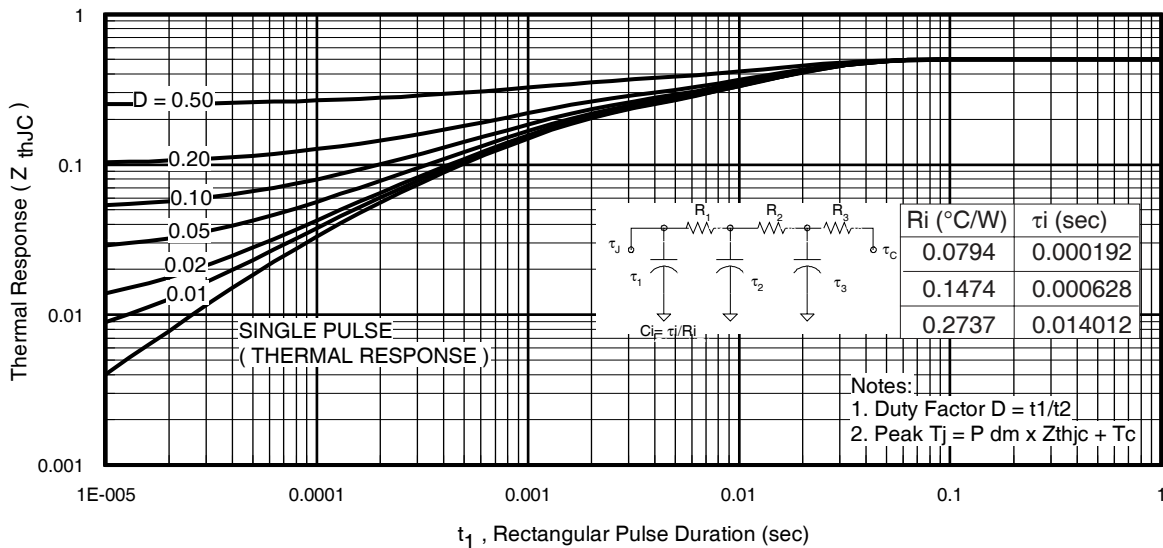
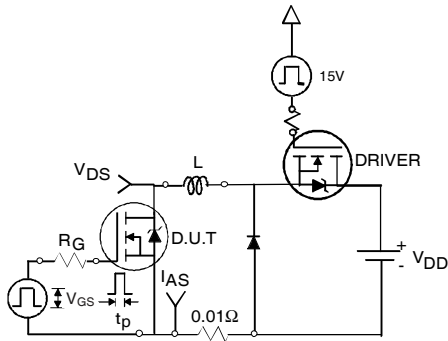

Fig 11. Maximum Effective Transient Thermal Impedance, Junction-to-Case
Fig 12a. Unclamped Inductive Test Circuit
- ① Repetitive rating; pulse width limited by max. junction temperature. (See fig. 11).
- ② Limited by T_{Jmax}, starting T_J = 25°C, L = 0.043mH, R_G = 25Ω, I_{AS} = 140A, V_{GS} = 10V. Part not recommended for use above this value.
- ③ Pulse width ≤ 1.0ms; duty cycle ≤ 2%.
- ④ C_{oss eff.} is a fixed capacitance that gives the same charging time as C_{oss} while V_{DS} is rising from 0 to 80% V_{DSS}.
- ⑤ Limited by T_{Jmax}, see Fig.12a, 12b, 15, 16 for typical repetitive avalanche performance.
- ⑥ This value determined from sample failure population. 100% tested to this value in production.
- ⑦ This is applied to D²Pak, when mounted on 1" square PCB (FR-4 or G-10 Material). For recommended footprint and soldering techniques refer to application note #AN-994.
- ⑧ R_θ is measured at T_J of approximately 90°C.
- ⑨ Solder mounted on IMS substrate.
3. Equation below based on circuit and waveforms shown in Figures 12a, 12b.
$Z_{thJC}(D, t_{av})$ = Transient thermal resistance, see figure 11)